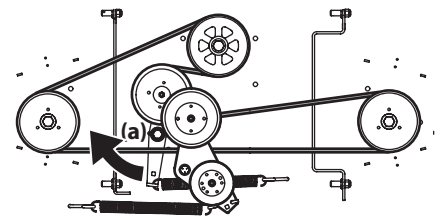

Figure 46
- Using a 1/2" drive insert the end into the 1/2" square opening in the deck idler assembly (a) and rotate the deck idler assembly (a) clockwise. See Figure 46. While holding the deck idler assembly (a), loosen the deck belt from the pulley and slide the belt away from the pulley.
- Route the new belt as shown in Figure 46. Then reinstall the deck and PTO belt.